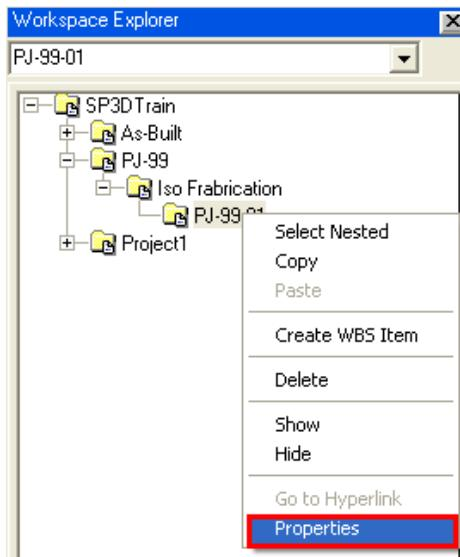

Figure 68: Properties Option for the PJ-99-01 WBS Item
3. Right-click the WBS item **PJ-99-01** and select the **Properties** option from the menu, as shown in Figure 68, to change the properties of the WBS item **PJ-99-01**.